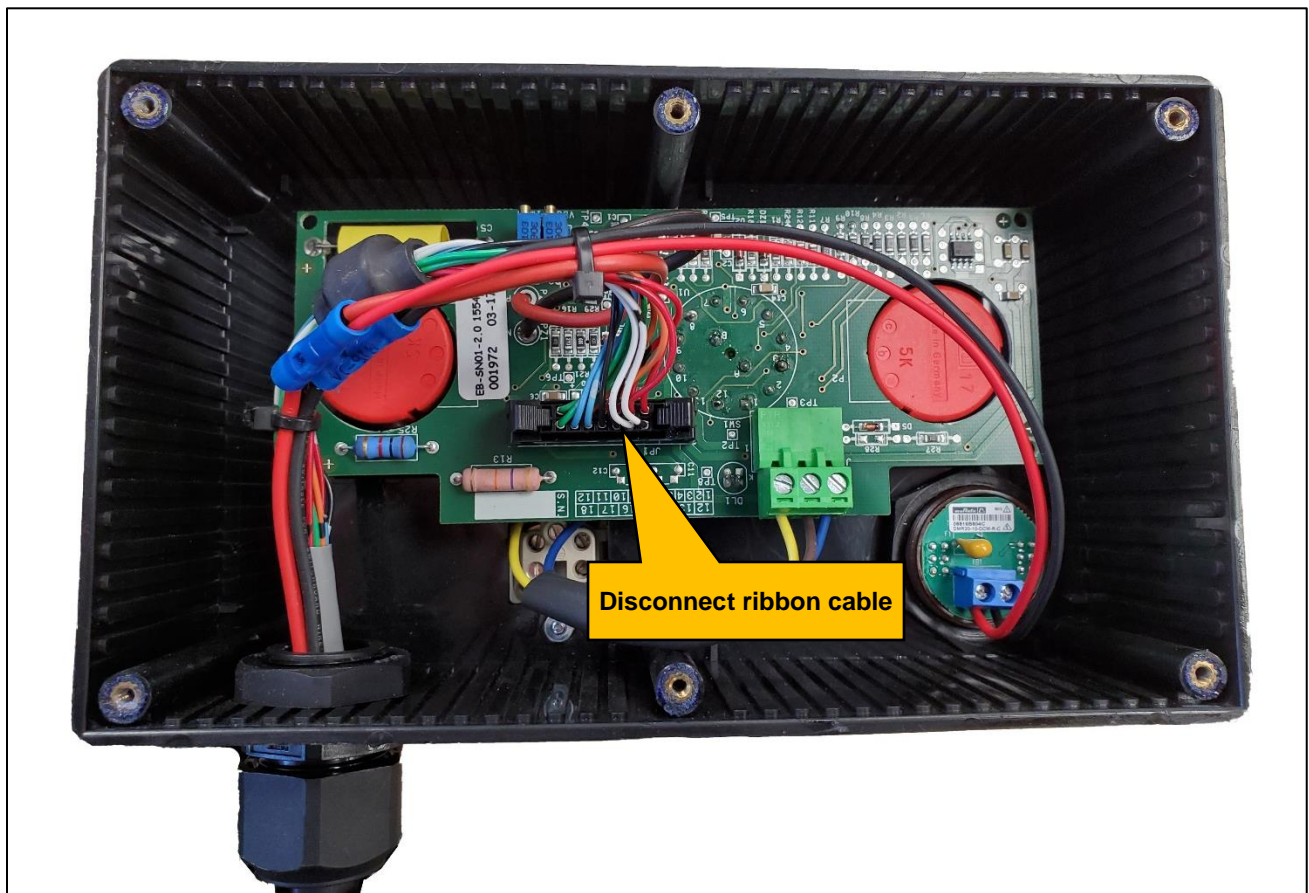

Figure 1 - Disconnect old harness
- Disconnect the ribbon cable from the circuit board (Figure 1).